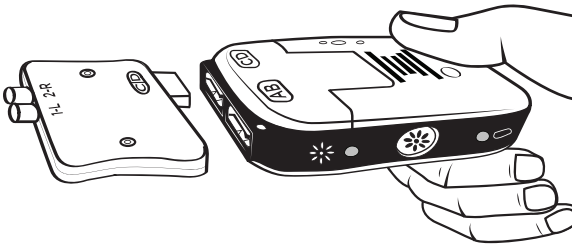

Figure 16. Connection of the ETS Adapter to the ETS 2
3. Plug the ETS Adapter into the ETS 2 Port labeled “CD” (Figure 16).